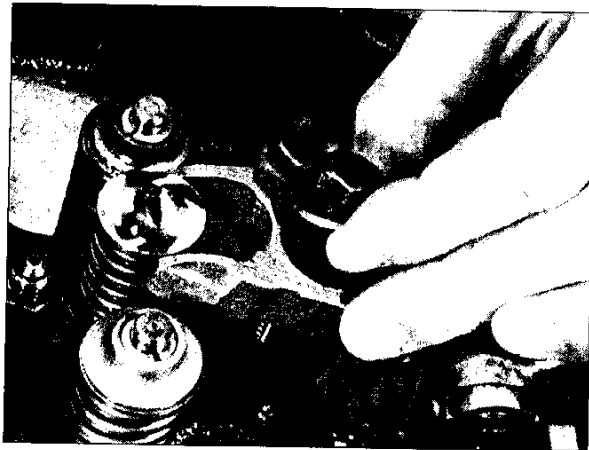

FIG. 1.6.18
1. On engines equipped with high mount injector clamps, remove the clamp by removing the bolt and special washer. Replace with a Jacobs high mount clamp and use the same washer and bolt (Fig. 1.6.18). Tighten the bolt to 25 lb.-ft. (35 N·m). The Jacobs clamp can be identified by a small milled section on one side. This provides clearance for the exhaust valve stem cap.